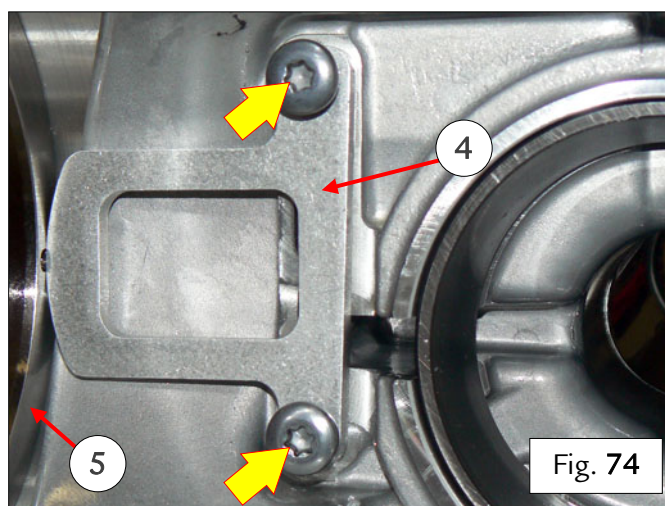

Fig. 74
- Fit the new bracket (4) in the relative seat against the ring nut (5), then tighten the new screws indicated to a torque of $9 \text{ Nm} \pm 1 \text{ Nm}$ – Fig. 74.